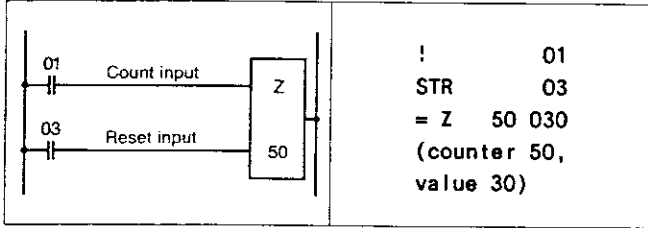

Figure 14.6
- g. When programming counters or shift registers which have two or more inputs, specific (defined) programming commands must be used (e.g. Figure 14.6).